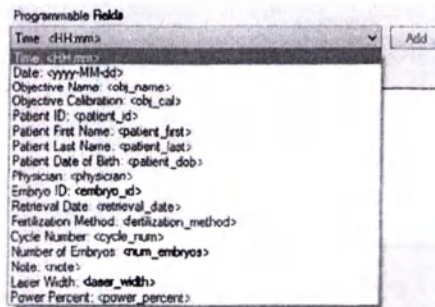

Figure 5-3: Programmable Field for Label Text
- **Programmable Fields:** Labels may be designed with a combination of manually entered text and **Programmable Field** variables (see Figure 5-3). To add a variable, select it from the list and press **Add**.